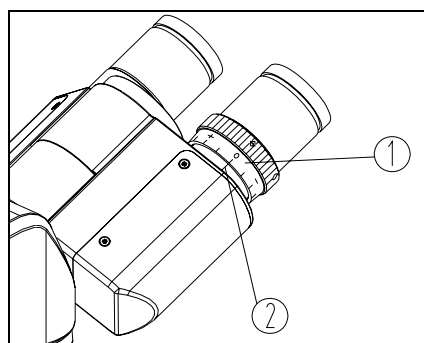

Fig.12
Observe the right eyepiece with the right eye, focus it until the image is clear. Then observe the left eyepiece with the left eye, if the image is not clear enough, rotate the diopter adjustment ring① until the image is clear (See Fig.12).